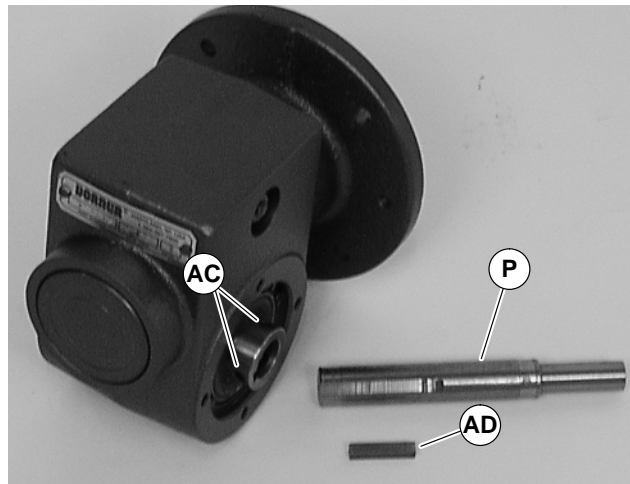

Figure 27
4. Remove two (2) screws (AJ) and detach output shaft cover (AI).
5. Remove gear reducer output shaft key (I).
6. Loosen six (6) set screws (AC of Figure 27). Remove drive shaft (P) and key (AD).
8. Replace the original shaft components into new gear reducer (see Figure 27).